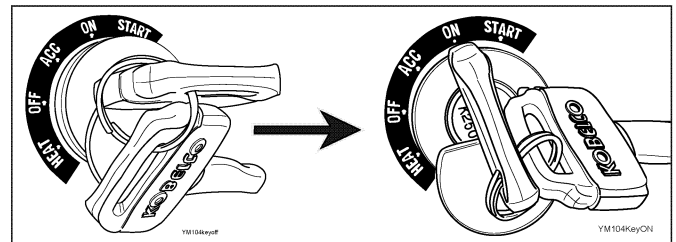

FIGURE 4.6B
2. Stop the engine. Make sure to place the ignition key in iON position and the safety lever is in the unlocked (down) position, ver Fig. 4.6B.
5. Remove cap and depress hydraulic relief valve located on the upper surface of hydraulic tank to release the pressure in the hydraulic tank. See Figure 4.6B.